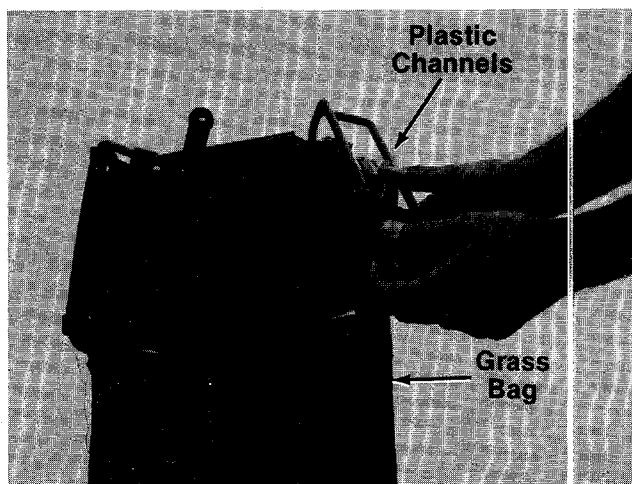

FIGURE 13.
3. Secure bag to frame by slipping plastic channels on bag over frame. See figure 13.